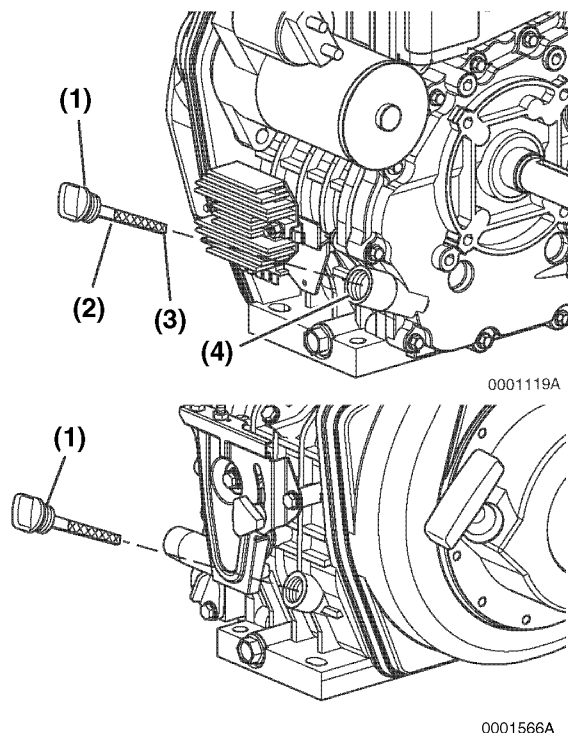

Figure 5-4
10. Add engine oil (**Figure 5-4, (4)**) as needed until the level is between the upper (**Figure 5-4, (2)**) and lower lines (**Figure 5-4, (3)**) on the oil cap / dipstick (**Figure 5-4, (1)**).
12. Replace the oil cap / dipstick (**Figure 5-4, (1)**) and tighten by hand. Over-tightening may damage the cap. If any engine oil is spilled, wipe it away with a clean cloth.